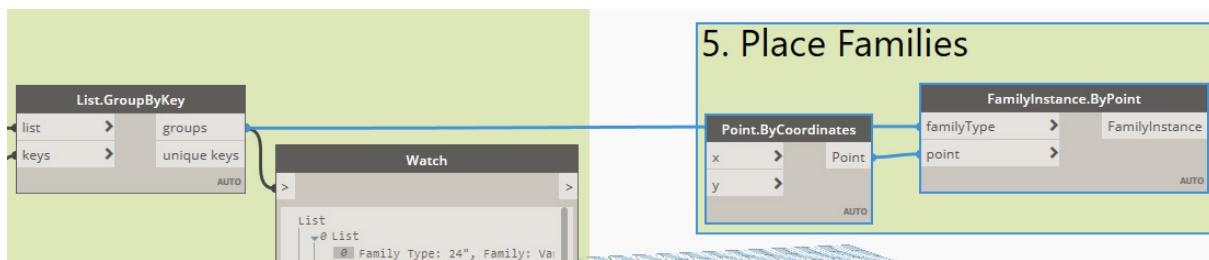

Figure 48
14. Wire the **groups** output (from the **List.GroupByKey** node) into the **familyType** input of **FamilyInstance.ByPoint** node (see Figure 48).